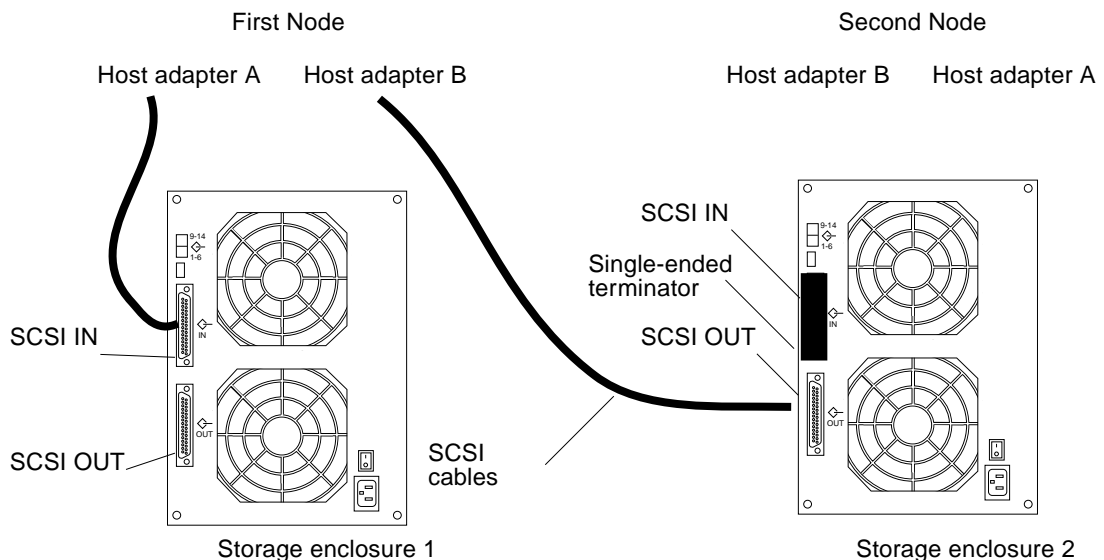

FIGURE 4-2 Example of a StorEdge MultiPack Enclosure Mirrored Pair
4. Connect the single-ended SCSI cable between the node and the StorEdge MultiPack enclosures, as shown in FIGURE 4-2.
- 5. Temporarily install a single-ended terminator on the SCSI IN port of the *second* StorEdge MultiPack enclosure, as shown in FIGURE 4-2.**